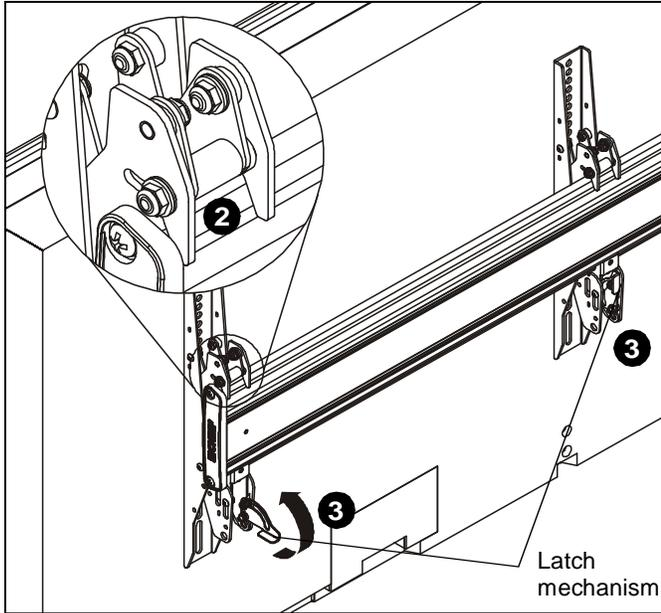

Figure 9
2. While supporting both sides of display, lower display onto one side of ceiling mount, hooking top of interface brackets onto rail of ceiling mount. (See Figure 9)
3. Raise the latch mechanism on both interface brackets to lock display in place. (See Figure 9)